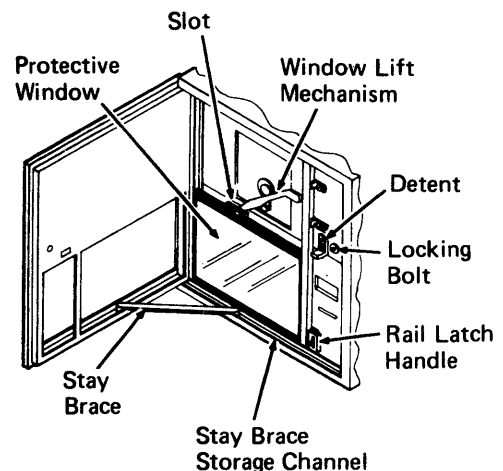

Figure 2.
5. Go to the front of the 3614, grasp the front cover at the card reader opening and swing it open (Figure 2). Lift the staybrace out of its storage channel, and lock the front cover open (Figure 2).